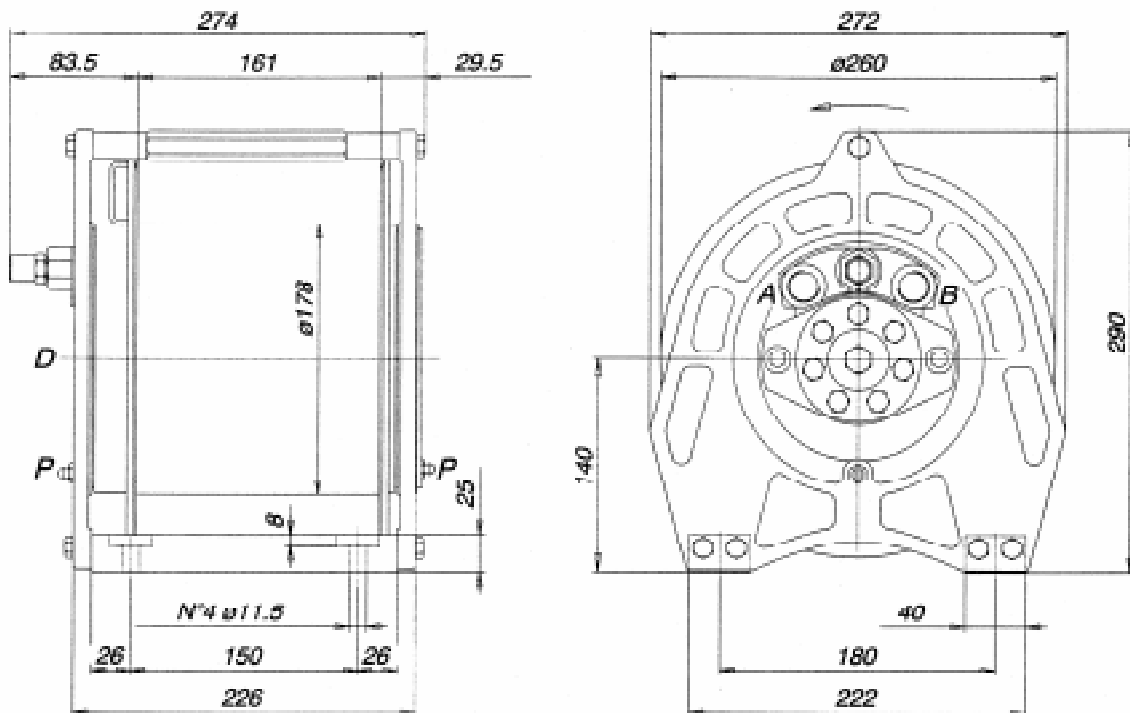

Fig.6-2
6.4 VERRICELLO SU ANTENNA J 903/904 (Fig. 6.2)
6.4 WINCH ON JIB J 903/904 (Fig. 6.2)